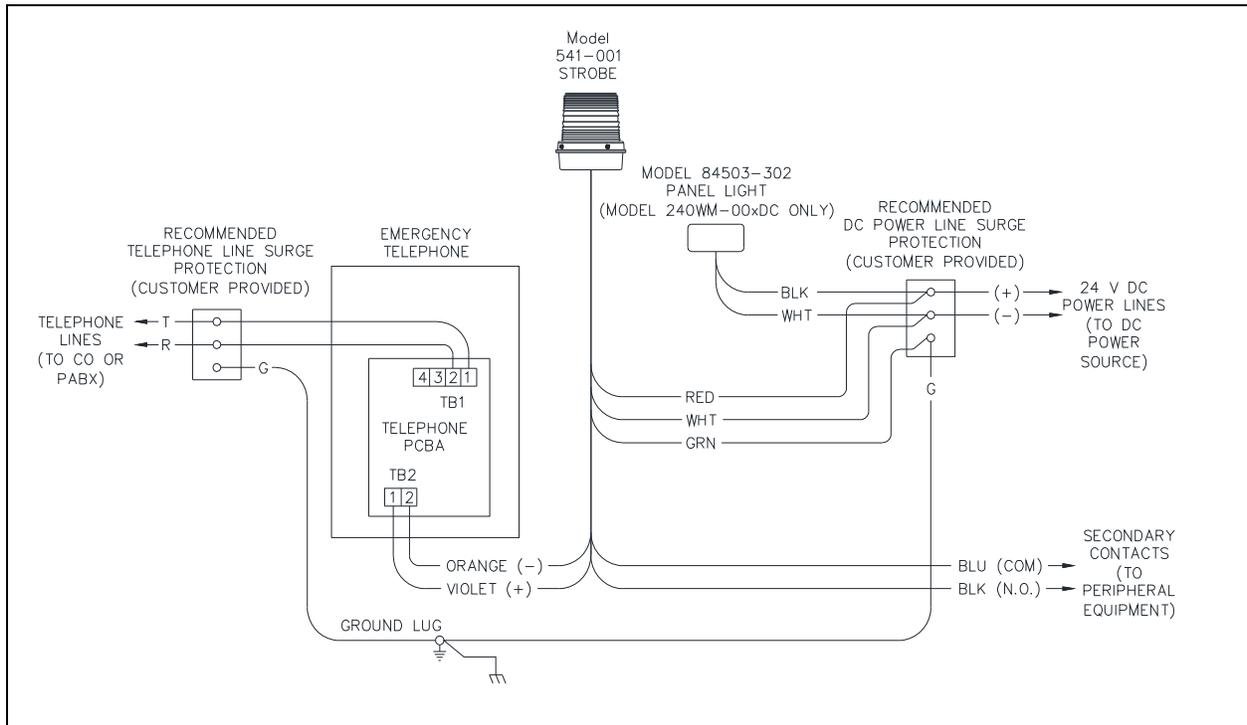

Figure 7. Installation Wiring
Connect the dc input power conductors to the LED beacon and panel light power conductors (see Figure 7).
8. Attach the LED beacon violet and orange control wires to terminal block TB2 on the telephone PCBA (see Figure 7).